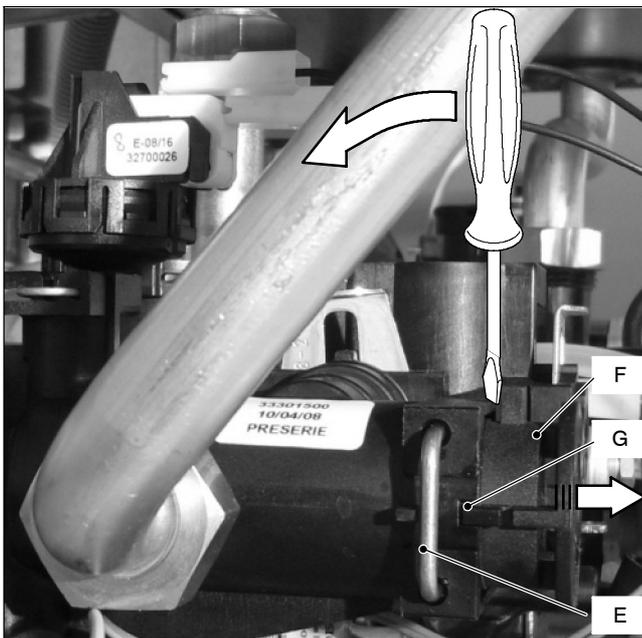

Fig. 5
- 4 Remove the fixing spring *E* (Fig. 5)
- 5 Remove the tree way diverter valve *F* by levering with a screwdriver in as shown in Fig. 5.
**Attention.** When reassembling the tree way diverter valve be sure that the tree way diverter is correctly oriented by matching the reference *G* with the notch of the water group Fig. 5